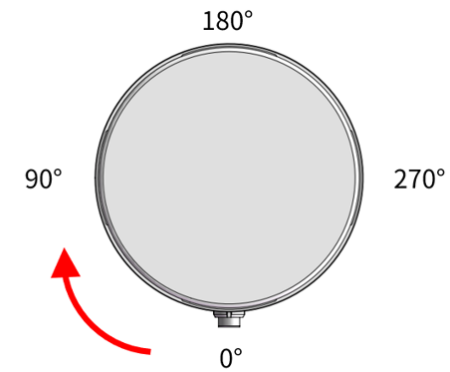
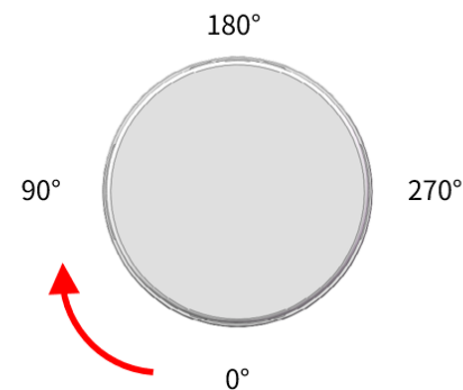

Figure 3. Lidar azimuthal position (top view)
Figure 5. Lidar azimuthal position (top view)
- Lidar azimuthal position is defined in Figure 3, “Lidar azimuthal position (top view)” and Figure 5, “Lidar azimuthal position (top view)”. Y-axis corresponds to 0°.